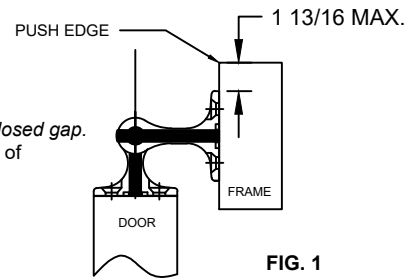

FIG. 1
2. Locate and mark the vertical edge of the hinge, maximum 1-13/16" from the push edge of frame to edge of hinge flange. (FIG. 1)
6. Position door 90 degrees to frame. (FIG.1)